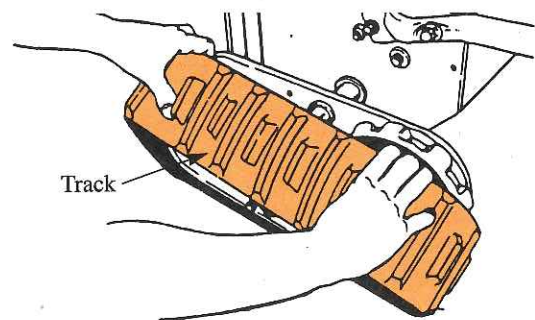

**Figure 20-25.** Rolling the track off the idler and drive wheel assembly after releasing tension. (MTD Products, Inc.)
3. Roll the track off the idler and drive wheel assembly as shown in **Figure 20-25**.